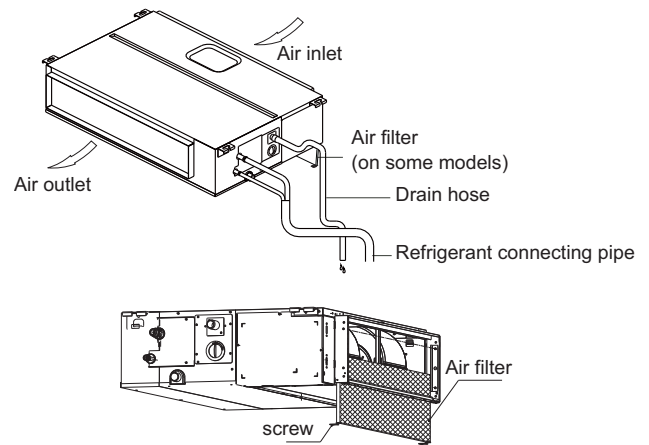

Fig. 3 — Indoor Unit Representation
- Fig. 3 is a sketch. Different models may differ slightly.